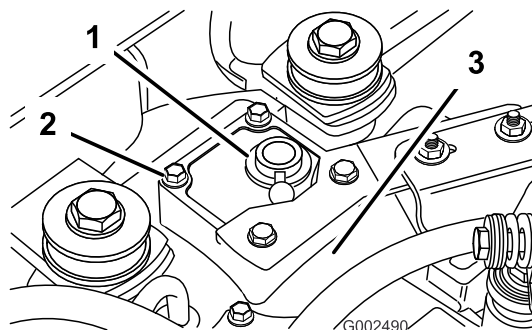

Figure 5
- Remove the four bolts securing the cover to the top of the transaxle housing (Figure 5). Remove the muffler bracket.